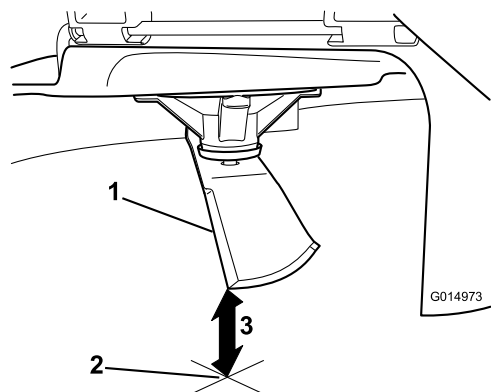

**Figure 52**
3. Measured distance between blade and the surface (A)
4. Rotate the same blade 180 degrees so that the opposing cutting edge is now in the same position (Figure 52).